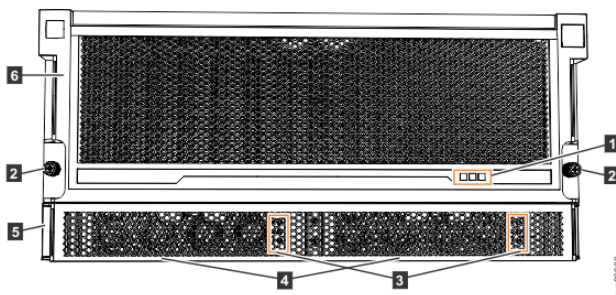

Figure 56. Features on the front of the 5U expansion enclosure
Important: Before you connect the power cables to the rear of the enclosure, always check that the expansion enclosure is secured in the rack. If needed, tighten the thumbscrews on the front of the enclosure (2 in Figure 56 on page 100) to ensure that the enclosure drawer does not roll open.
The 5U expansion enclosure has two power supply units (PSUs) that are accessible from the front of the enclosure (4 in Figure 56 on page 100). As the figure also shows, the PSUs are covered by the 1U fascia (5).
On the front of the enclosure, the indicators on the front display panel and each PSU (1 and 3 in Figure 56 on page 100) are also lit when the power is connected. See “High density expansion enclosure LEDs and indicators” on page 246 for information about the status that is provided by the indicators.